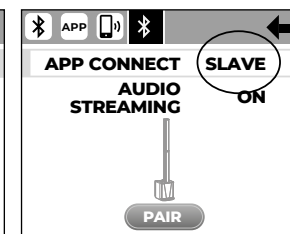
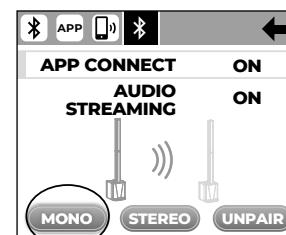
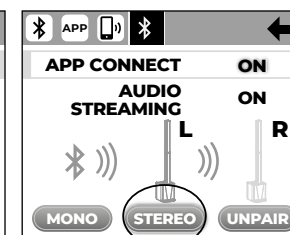

Fig.4A
Fig.4B
Fig.4C
**APP CONNECT SLAVE:** if activated (Fig.4A), it configures the unit as an additional secondary system (Slave) perfectly controllable via APP. In this way it is possible to choose between Mono (Fig.4B) or Stereo (Fig.4C) listening. Make sure that the APP CONNECT control is set to ON in the main system (Master)